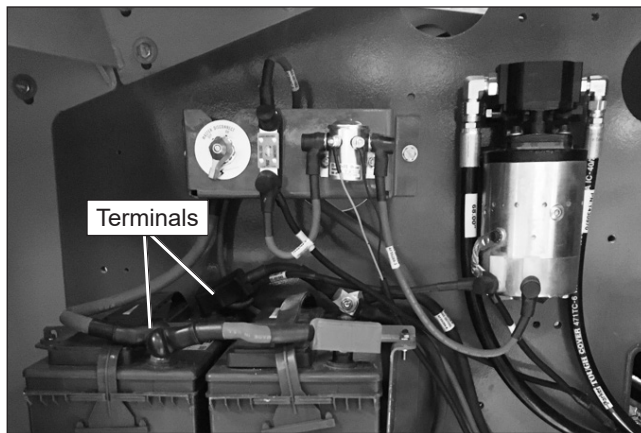

Figure 7.5 – Batteries
Electrical power is supplied from two 550 CCA, 12 volt batteries. The batteries are under the engine cover on the right side of the machine (refer to Figure 7.5). The batteries supply 12 volt DC electrical power to operate the aerial platform electrical and electrohydraulic components, including the emergency power system.
1. Check the top of the batteries, the terminals, and cable ends. They should be clean and free of corrosion (refer to Figure 7.5).